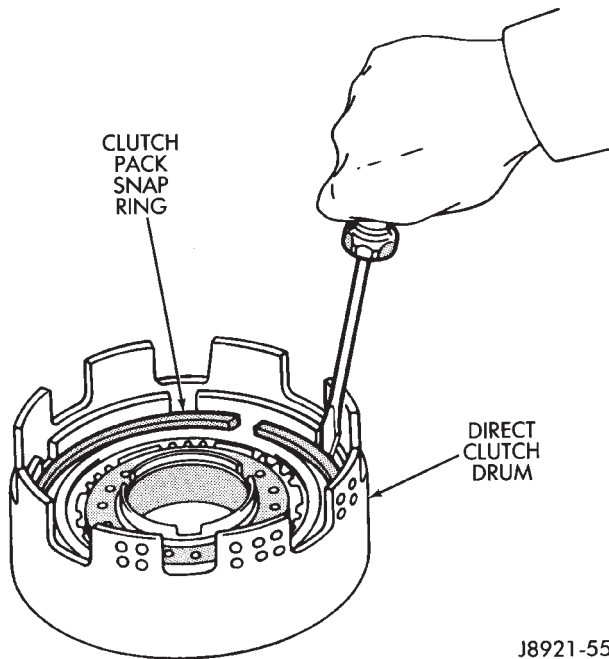

Fig. 5 Removing Clutch Pack Snap Ring
(7) Piston stroke length should be 1.37 mm - 1.67 mm (0.054 - 0.065 in.). If stroke length is incorrect, either the clutch pack retainer or clutch discs will have to be replaced.
(8) Remove clutch pack snap ring and remove retainer and clutch pack from drum (Fig. 5).